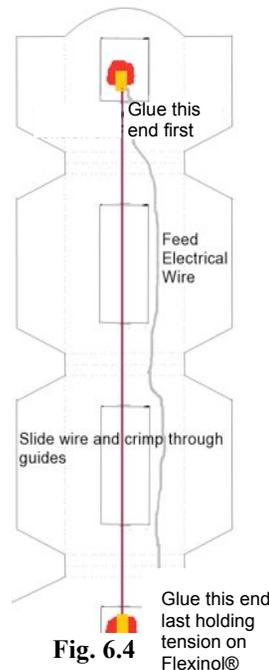

Fig. 6.4
- 6.2.1. Once the guides are solidly dry you thread the Flexinol® wire through the holes in the ends of the guides. You need to be sure you haven't missed any guides as in Figure 6.4. If you insert one of the wires through only five of the six guides, that finger will not work, and once the wires are glued in place they generally cannot be removed without damaging them.